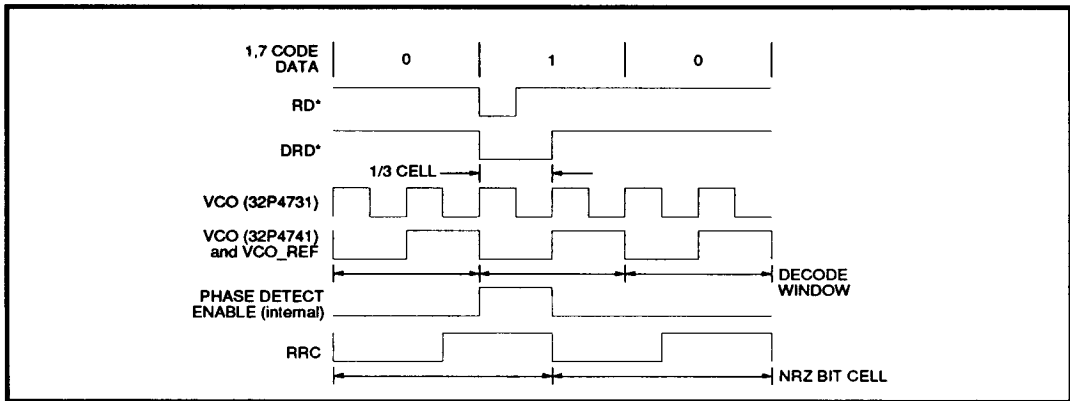

FIGURE 5: Data Synchronization Waveform
The data synchronizer utilizes a fully integrated fast acquisition PLL to accurately develop the decode window. Read gate (RG) initiates the PLL locking sequence and selects the PLL reference input; a high level (read mode) selects the internal \overline{DRD} signal and a low level selects the reference clock. In the read mode the falling edge of \overline{DRD} enables the phase detector while the rising edge is phase compared to the rising edge of the VCO reference (VCOR.) As depicted in Figure 5, \overline{DRD} is a 1/3 cell wide (TVCO) pulse whose leading edge is defined by the falling edge of \overline{RD} . A decode window is developed from the VCOR clock.